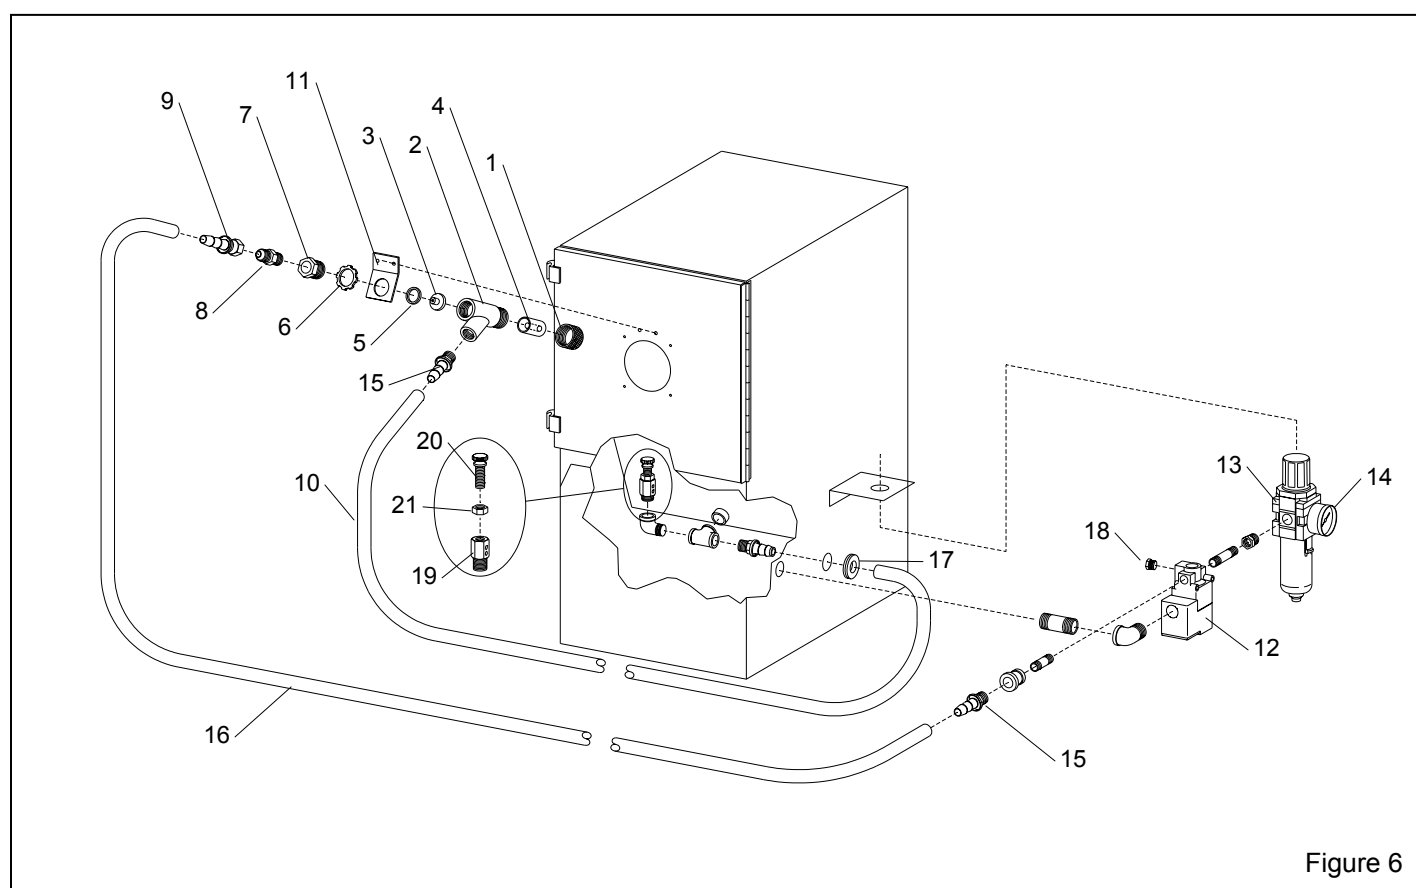

Figure 6
**6.10.2** Air jet washer (Fig. 6 item 5) not tightly sealed against air jet. Tighten the bushing into the gun body.
**7.3 Gun feed and Plumbing Assembly, Figure 6**